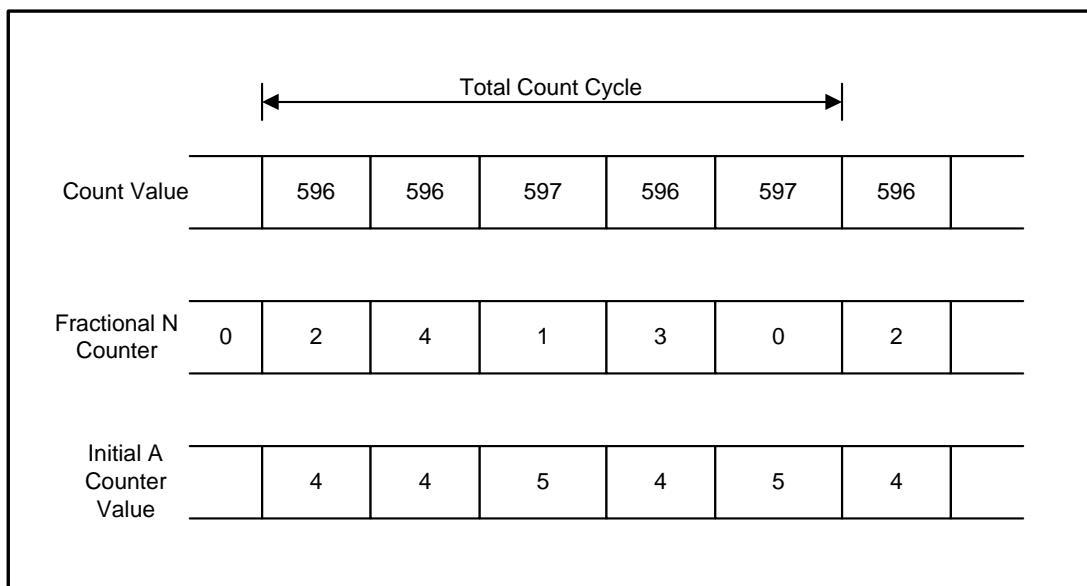

Figure 11 - UHF Synthesizer - Fractional N Operation
An example is shown in Figure 11 for a divide ratio of $596 + 2/5$. The values for M, A, B are calculated using the integer value (596) as in the previous example. The fractional denominator is programmed as 5 and the fractional numerator as 2. At the end of the first count cycle (596) the fractional counter is incremented to 2. At the end of the third count cycle the fractional N counter overflows, incrementing the A counter by 1 which gives a subsequent count cycle of 597. After five count cycles the sequence repeats with a total count of 2982 over the five count cycle giving a mean value of $596 + 2/5$.